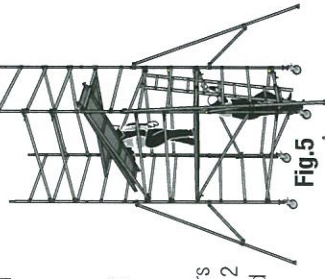

Fig.5
**12.** Remove the temporary platform and place it above to complete the working platform. The working platform should now include the ladder access platform and the access ladder – See Fig 5.
**15.** Repeat the above process installing working platforms at nominally 2.0m intervals – see Fig 5.